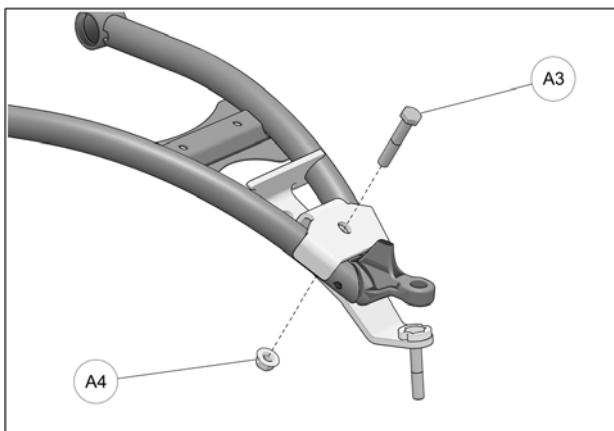

Fig. 13
- Insert M10x60mm bolt (A3) from the top and secure the two parts together with the nut (A4) provided. Tighten assembly to 50 N•m [37 lb•ft] of torque. Refer to Fig. 13